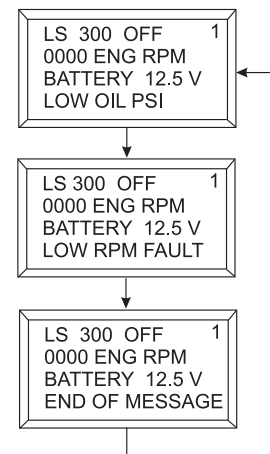

Figure 24. Primary Screen (Ignition Key ON)
6. When the ignition key is in the **ON** position, the Digital Readout Screen (primary) will cycle through 3 displays as shown in Figure 24.